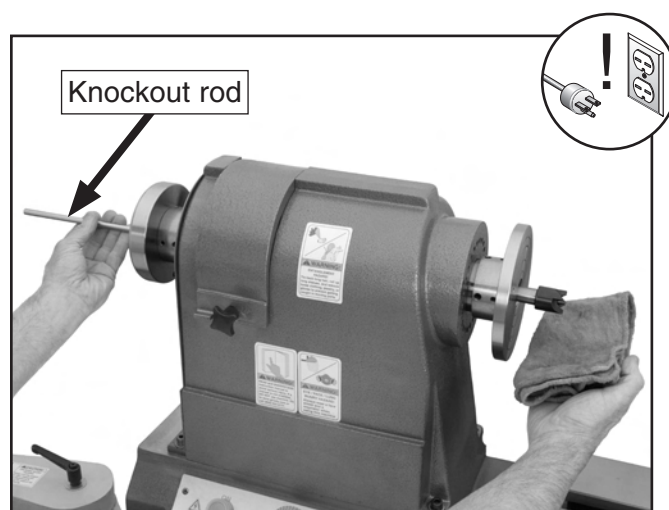

Figure 17. Removing the headstock center.
3. Insert the knockout rod through the outbound end of the spindle and firmly tap the center to remove it, as shown in **Figure 17**.